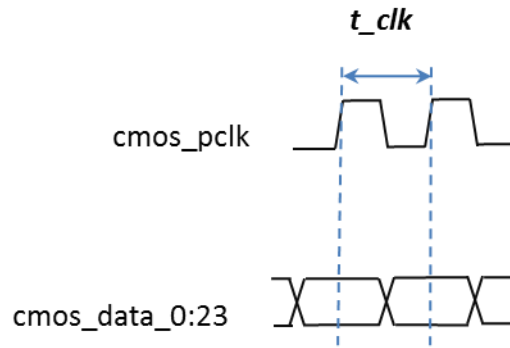

Figure 55: Phase of Pixel Clock relative to CMOS Data
4. All signals in the CMOS channel are latched on the rising edge of the pixel clock, *cmos_pclk*, as illustrated in Figure 55. As shown in Table 10, the period of the pixel clock is either 27.000 MHz or 13.500 MHz, depending upon whether or not the averager feature is enabled (see Section 7.2).